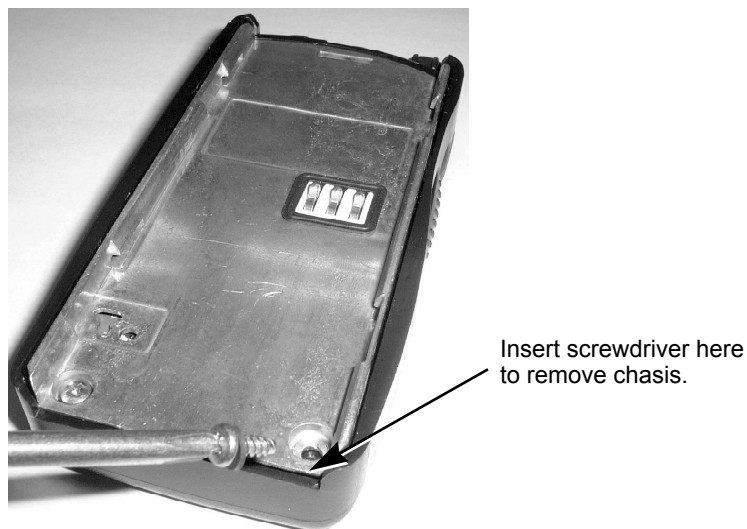

Figure 2-2
5. Remove the two screws at the back of the rear chassis (see “Figure 2-2”).
6. Insert a small flat-head screw driver at the bottom of the radio, between the chassis and housing (location marked in "Figure 2.2"), and lift the chassis gently. Be careful not to damage